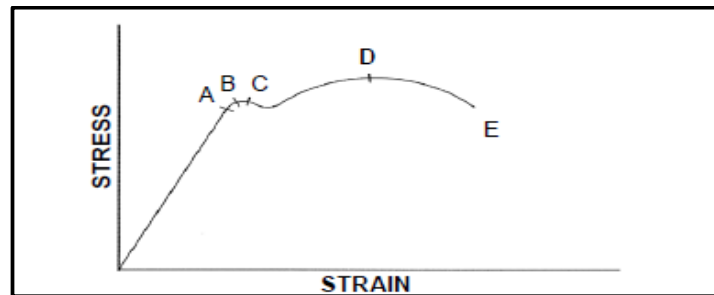

FIGURE 4.7
- (1)
4.7 What does the point **E** denote in the stress/strain diagram in FIGURE 4.7?